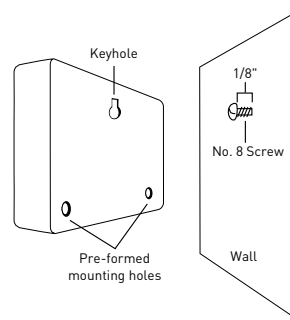

Figure 2: Hang timer on screw using keyhole
- Slip the timer over protruding screw (using keyhole slot in back of timer). *See figure 2*
- Drive a No. 8 screw through one of the two pre-formed holes located in lower corners of the cabinet. *See figure 2*